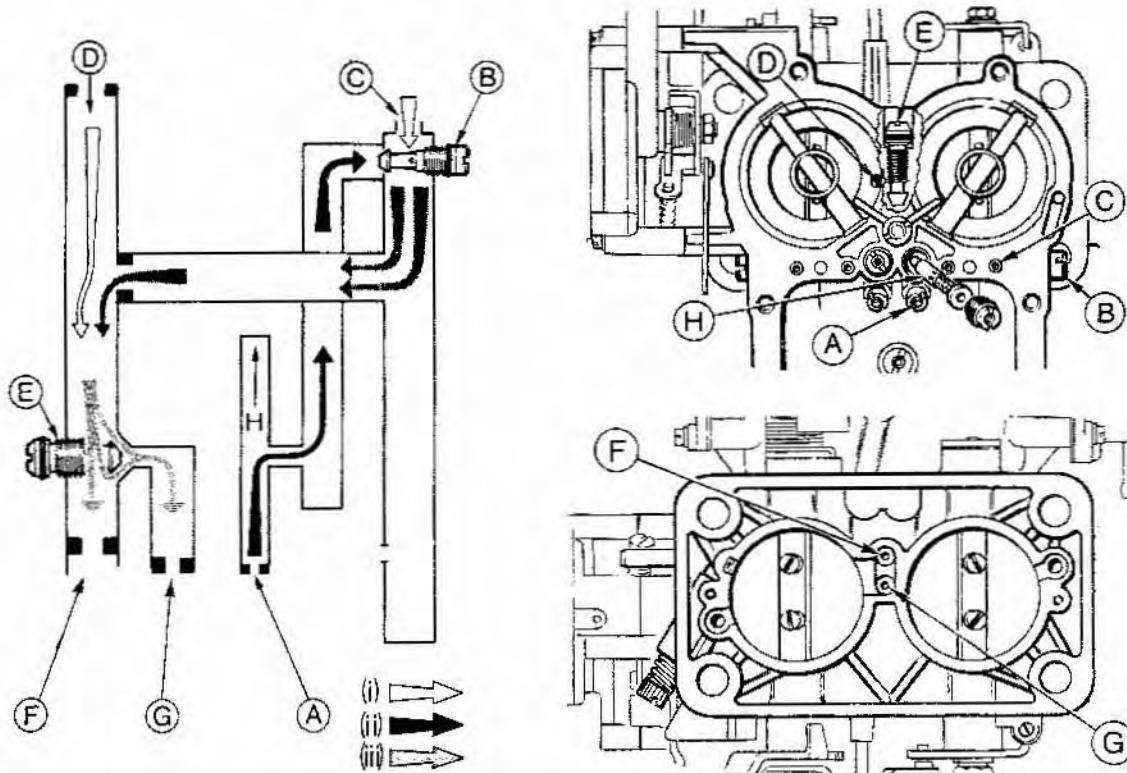

Fig. 1.14 The Weber bypass idle system
Reference to Fig. 1.14 will show the operation of the bypass idle system. Fuel from the float chamber is drawn through the secondary main jet (A) to the secondary idle jet (B) where it becomes emulsified with air drawn through the calibrated orifice (C). The mixture is then drawn through internal channels and a calibrated drilling and mixes with air supplied through the drilling (D) in the primary choke. The bypass idle adjustment screw (E) controls the amount of mixture admitted to the discharge apertures (F and G) which then is drawn through the inlet manifold and into the engine.